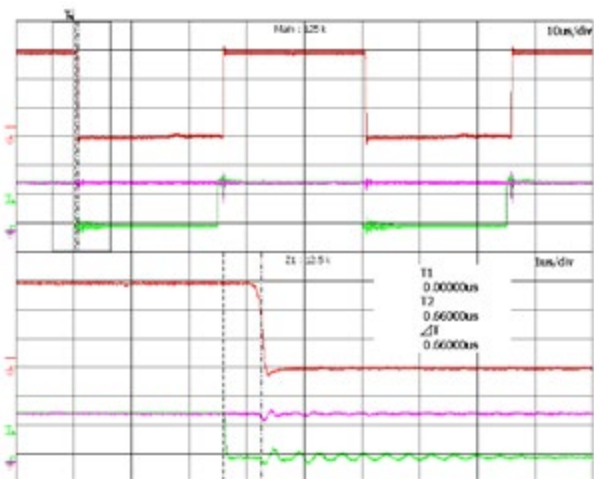

Figure 5: MIXA225PF1200TSF Operating in Complementary Mode with a Single Signal Source at IXIDM1403 Channel A and Channel B Permanently Enabled
**Note:** The lower portion of Figure 5 is magnified 10 times the upper portion.